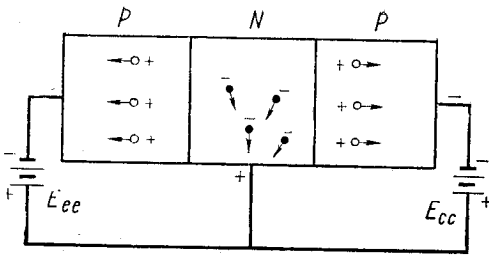

Fig. 11. Non-conducting $p-n-p$ junction transistor
2. Fig. 11 illustrates a $p-n-p$ junction, made up of a sandwich of two $p-n$ germanium junction diodes, placed back to back.³ Although exaggerated in the illustration, the centre or n -type portion of the sandwich is extremely thin in comparison to the p -regions.
3. With the battery polarities as shown in Fig. 11, the p -regions are negative with respect to the central n -region or conversely the n -region called the base is positive with respect to the p -regions. The mobile electrons in the n -region, therefore, initially move away from both junctions in the direction of the positive connecting terminal. The holes in each of the p -regions also move away from the junctions and are attracted toward the negative terminals. After these initial displacements of holes and electrons the current flow stops.